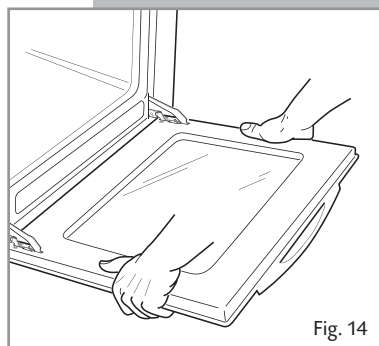
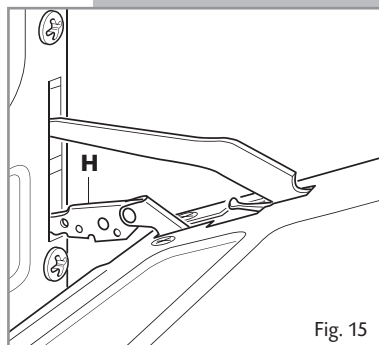

Fig. 14
Fig. 15
- Grip the door (as indicated in fig. 14) and, while closing it, release the two hinges as shown in fig. 15.
- Grip the door with your hands placed near the hinges and raise the levers “H” with your forefingers (fig. 15).